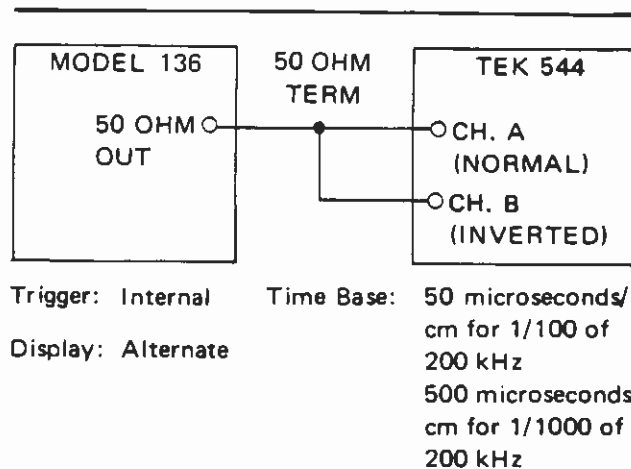

Figure 4-1.
1. Connect unit and oscilloscope, with 1A1 plug-in set for alternate display, as shown in Figure 4-1.